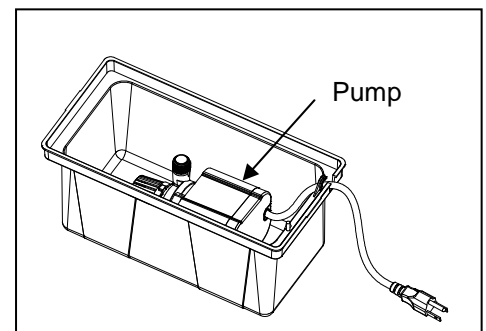

Fig. 1
1. Place your pump inside the filter box, close to the center. Make sure that the outlet points up. Route the cord through the hole in the top corner of the filter box bottom. Fig. 1